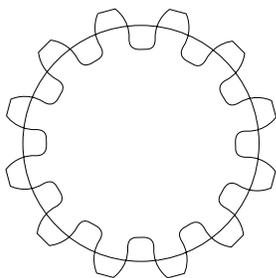

Figure 2.2, A gear with 12 teeth and a 1" Pitch Diameter is 12 Pitch.
**Diametral Pitch:** *the ratio of the number of teeth to the pitch diameter. (See Figure 2.2, 2.2B)*